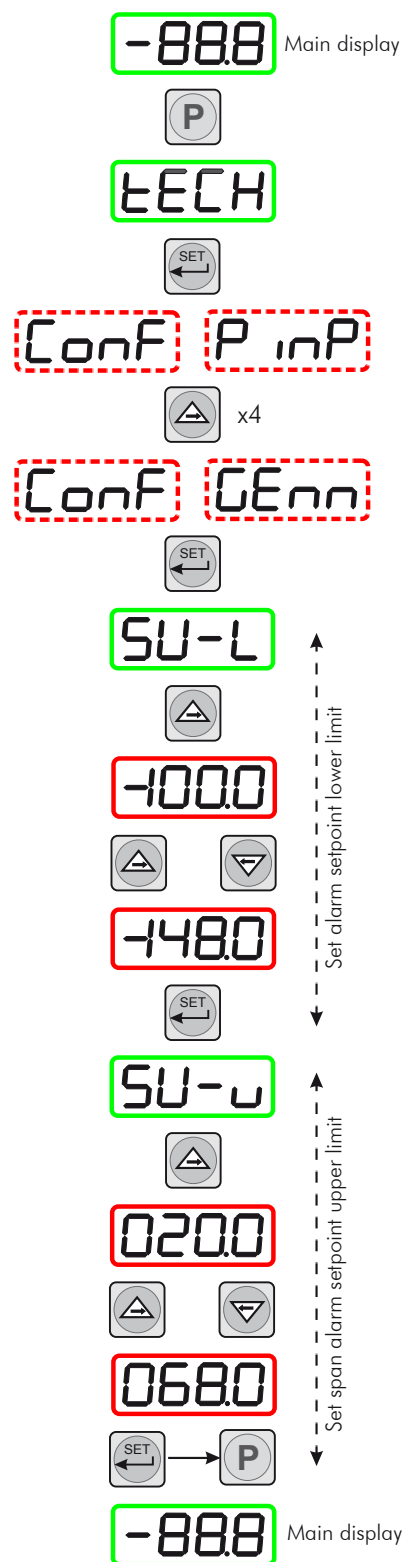

Figure 29 Set-up Alarm Set-Point Limits
*Figure 29* shows the operational key sequence.